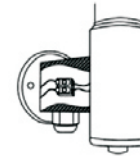

Рис. 4
- Put the connecting plinth in the protecting cover, fasten the two parts of protective cover by the small screws and place it inside the connection box (see figure 4).